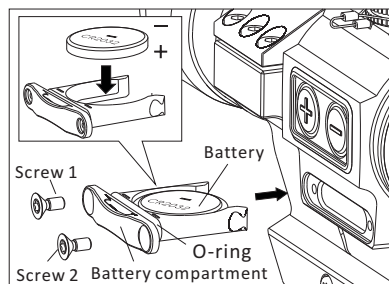

Fig2-2
2) Battery installation (Fig2-2):